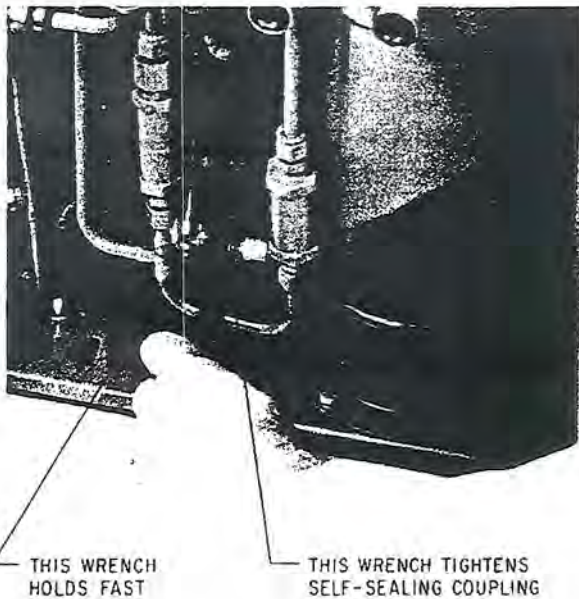

Figure 4.3 Connecting self-sealing couplings
2. Connect the adsorber to the compressor internal piping. Refer to Figure 4.3.
<p>Make sure to hold fast on the left coupling nut while tightening the right coupling nut, as shown in Figure 4.3.</p>
- b. Make the first turns by hand and then firmly seal the connection using the two wrenches until the fittings "bottom". Refer to Figure 4.3, for proper coupling of the self-sealing connection.